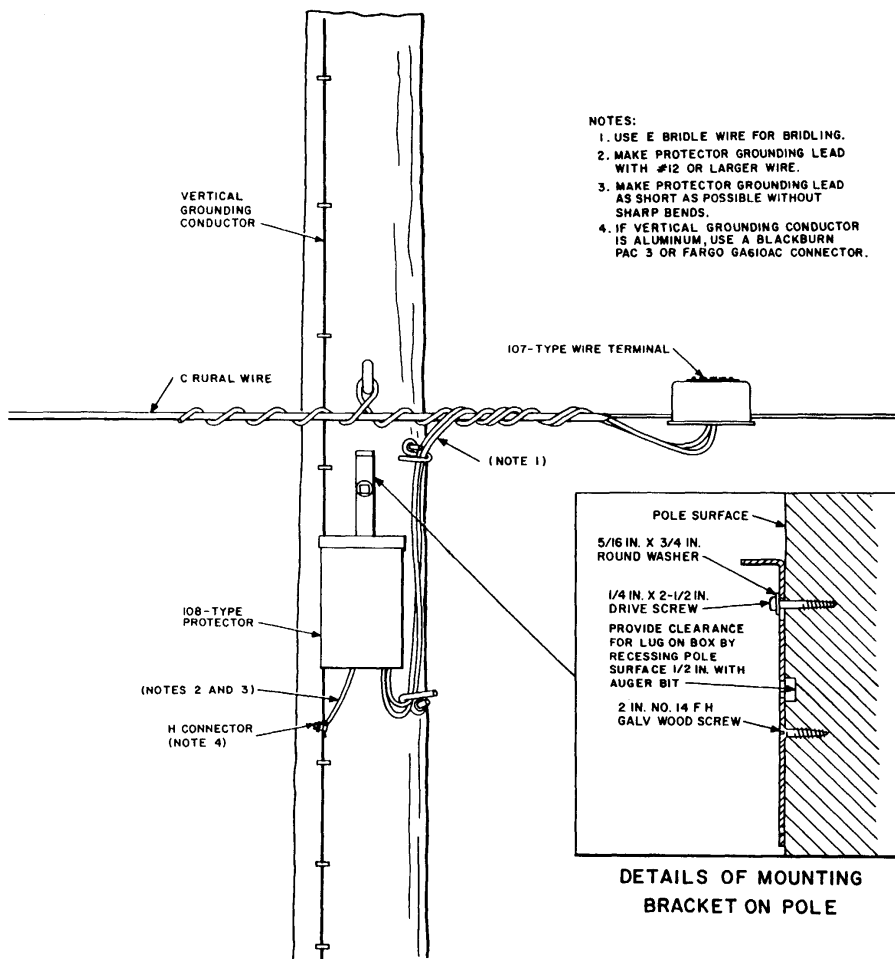

Fig. 4—108-Type Protector Mounted on C Rural Wire
**4.03** The method of mounting a 108-type protector and wiring it to C rural wire is illustrated in Fig. 4. Section 462-525-150 describes the method of mounting and wiring the 107-type wire terminal. Use